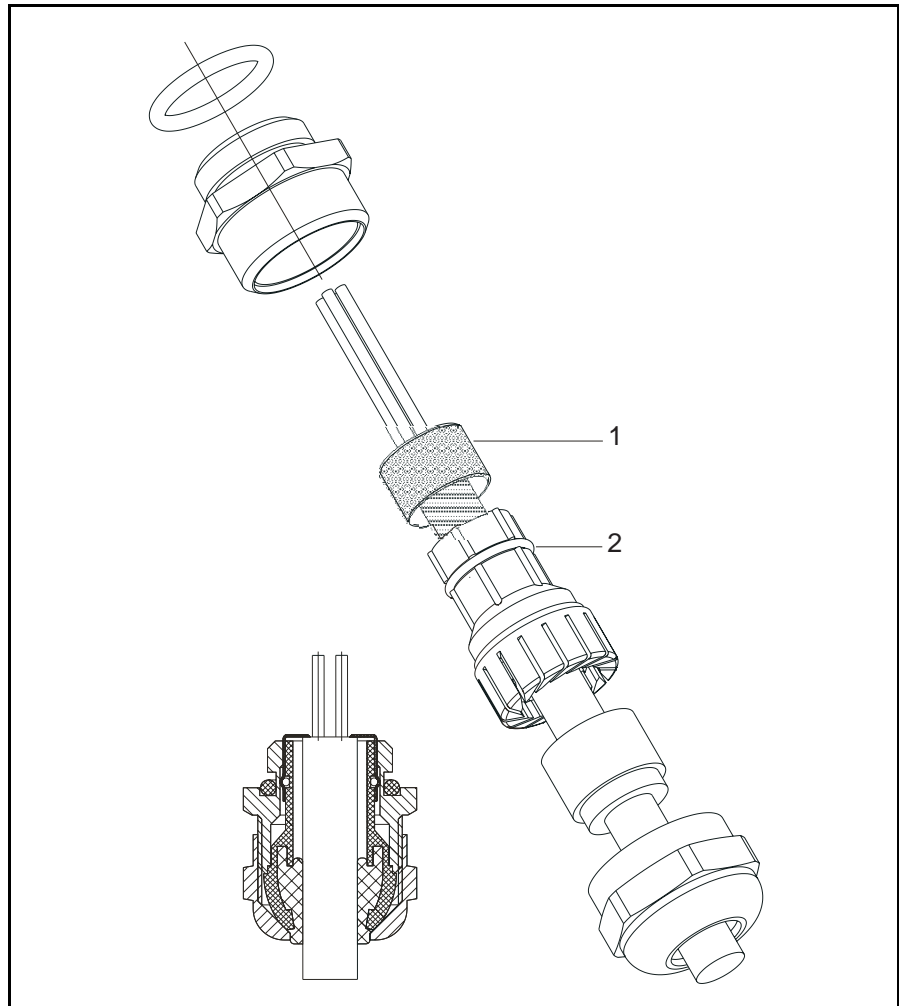

Fig. 4.17 Cable gland shielding
→ Lay the shielding (1) evenly over the O-ring (2) (see Fig. 4.17).